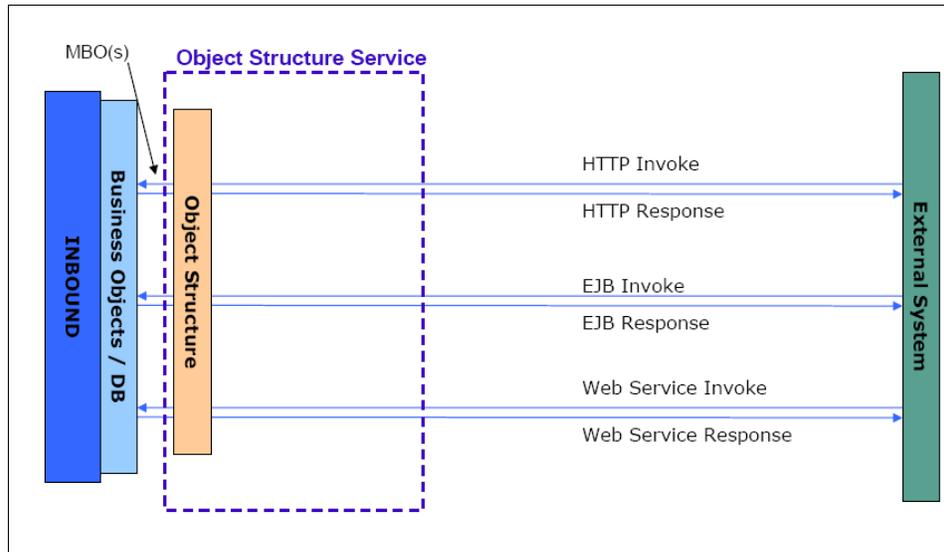

Figure 2-33 Object Structure Service
- New feature in V7.1 (Figure 2-33 on page 88).